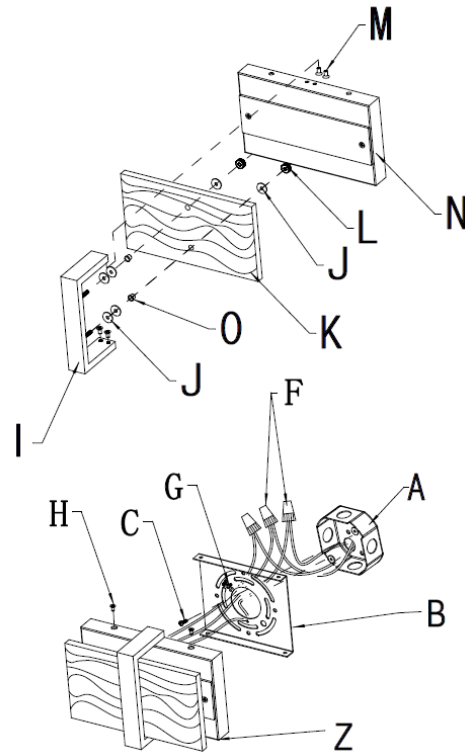

Fig.2
CONNECTING THE WIRES (FIG. 2)
4. At this point, connect the electrical wires as shown in Fig. 2, making sure that all wire connectors are secured. If your outlet has a ground wire (green or bare copper), connect the fixtures ground wire to it. Otherwise, connect the fixture ground wire directly to the mounting plate (B) using the green screw (G) provided. After wires are connected, tuck them carefully inside the junction box.